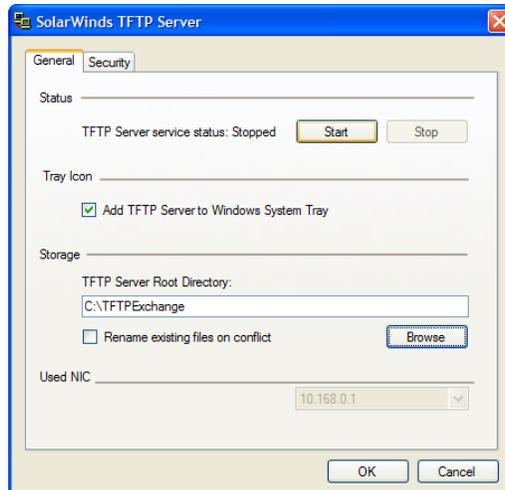

Figure 2-22: TFTPEXchange Folder
8. Verify that the TFTP Server Root Directory is now set to **C:\TFTPEXchanges**, as shown in Figure 2-22.